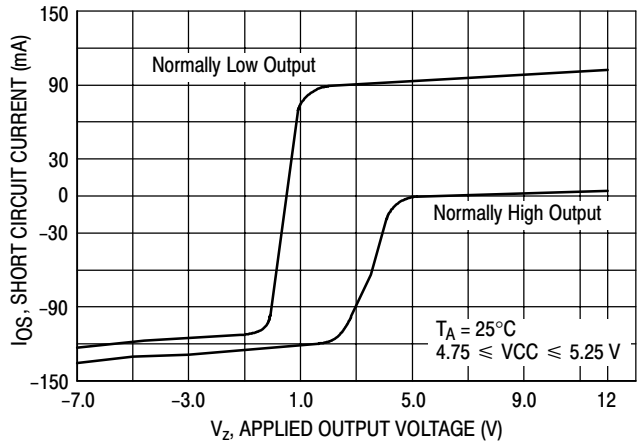

Figure 16. Short Circuit Current versus Common Mode Voltage
The two outputs of a driver are always complementary. A “high” output can only source current out, while a “low” output can only sink current (except for short circuit current – see Figure 16).
- Current limiting is provided at each output, in both the source and sink direction, for shorts to any voltage within the range of 12V to -7.0 V, with respect to circuit ground (see Figure 16). The short circuit current will flow until the fault is removed, or until the thermal shutdown circuit activates (see below). The current limiting circuit has a negative temperature coefficient and requires no resetting upon removal of the fault condition.